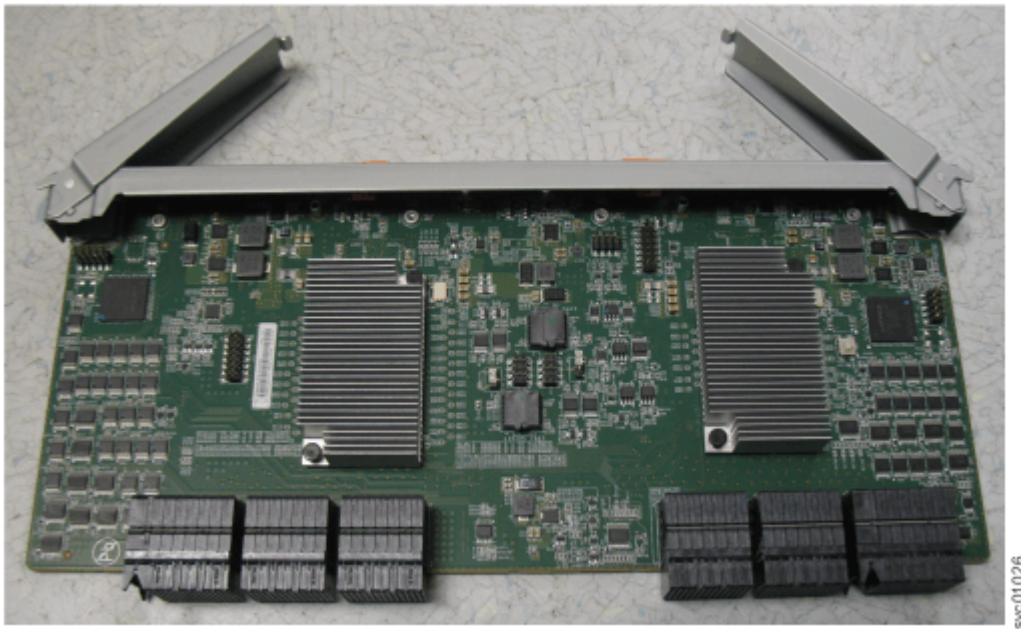

Figure 77. Open the secondary expander module handles
3. Rotate both handles on the new secondary expander module to an open position, as shown in Figure 77 on page 68.